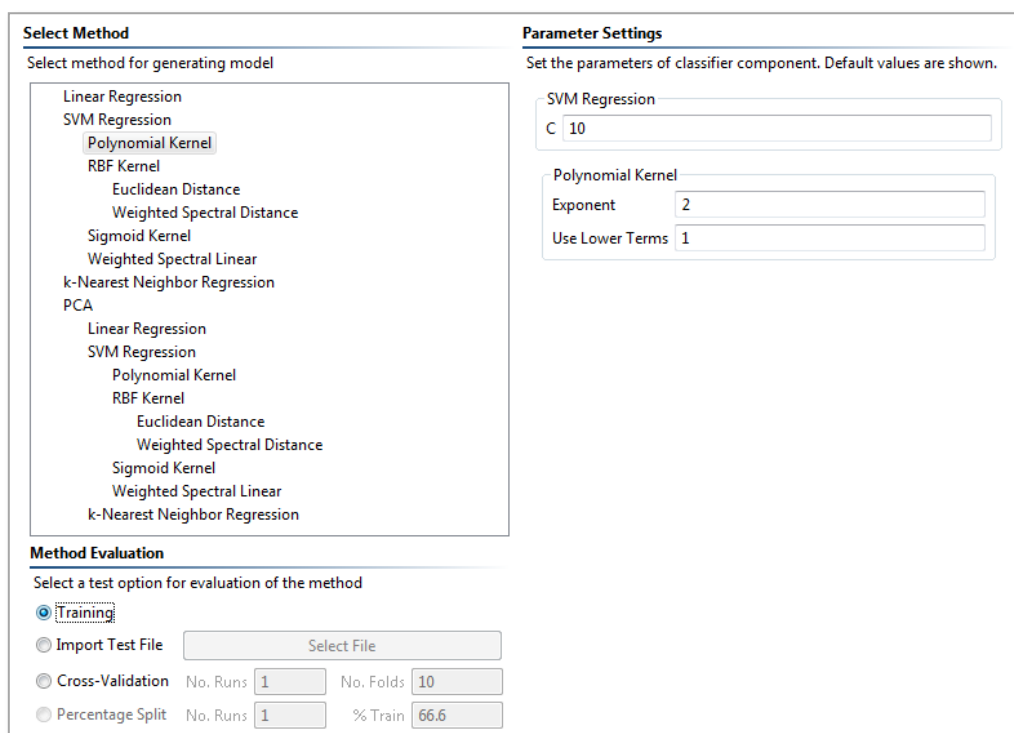

Figure 79: Building a quantification model: selecting method and evaluation
- b. Select a quantitative analysis method: here we choose SVM with Polynomial Kernel, as shown in Figure 79
- d. Select an evaluation method evaluation method: in Figure 79 we select *Training*, as we are performing a preliminary analysis